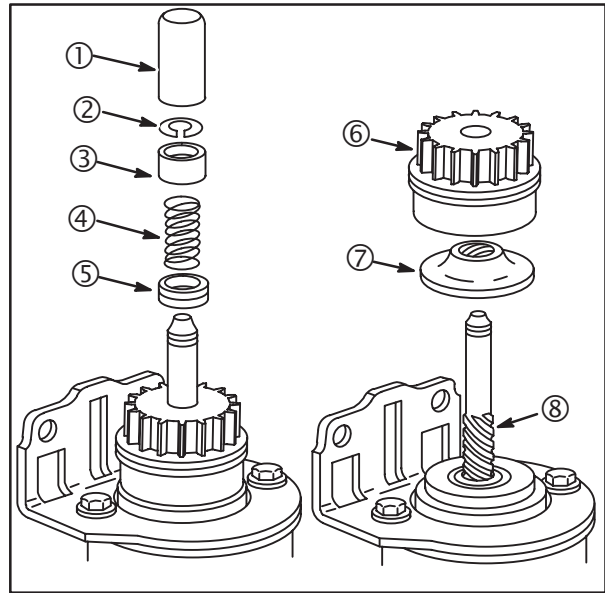

Fig. 12
1. Grasp end of rubber dust cover (1) and pull to remove, **Fig. 12**.
2. Push down on upper spring retainer (3) to expose retaining ring (2) on shaft.
4. Remove upper spring retainer, spring (4), lower spring retainer (5), pinion gear (6) and clutch (7).